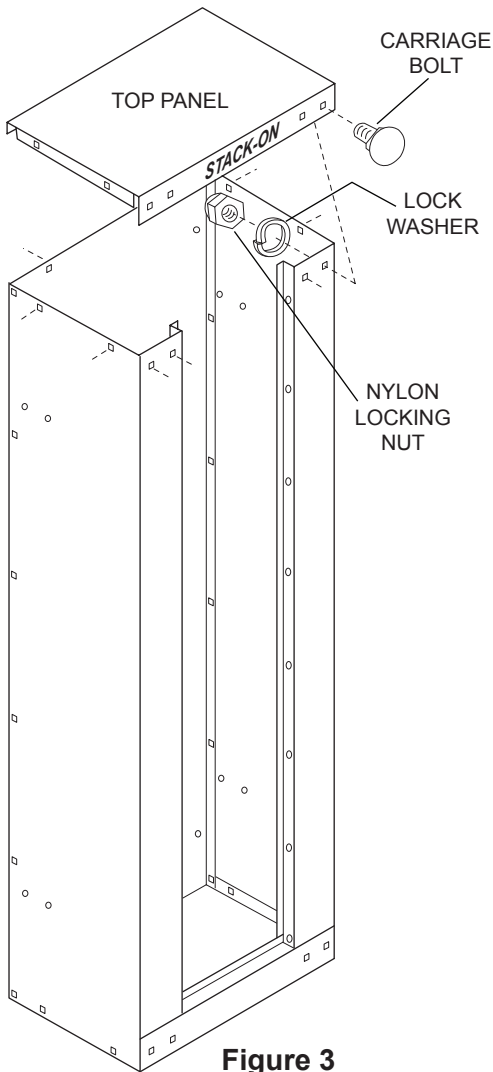

Figure 3
With the front and back flanges on the outside of the cabinet and the side flanges on the inside of the cabinet, assemble with (10) Carriage Bolts, Lock Washers and Nylon Locking Nuts. (See Figure 3)